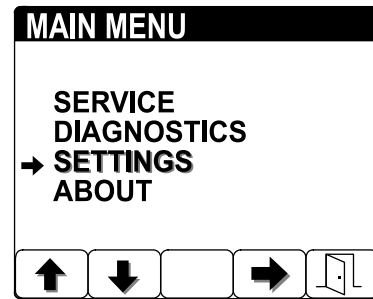

Figure 10
4. When you complete entering the PIN, press button 5 (Figure 10).